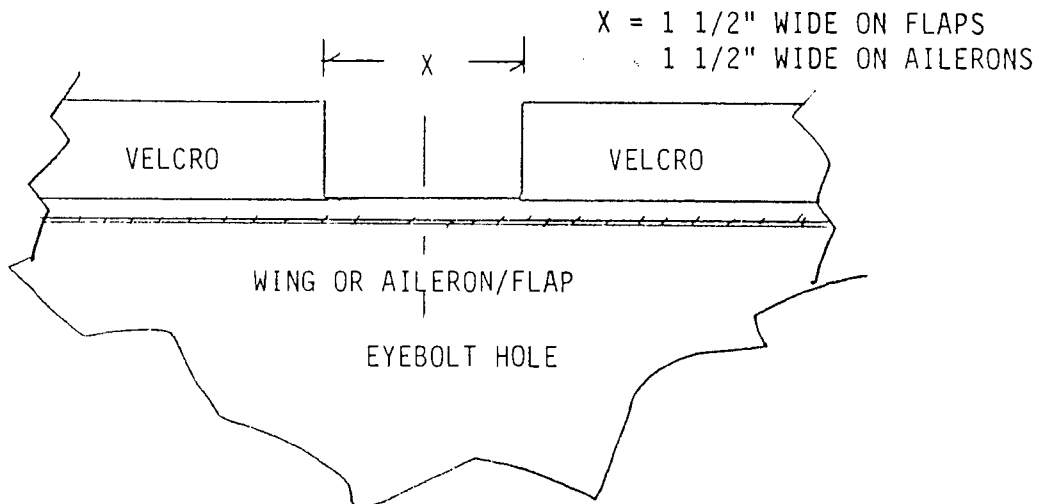

FIGURE 09-010
10. Melt through the hinge points and horn attach angle bolt holes. At each hinge point cut out as shown in Figure 09-010. BE CAREFUL not to cut into the stitching.